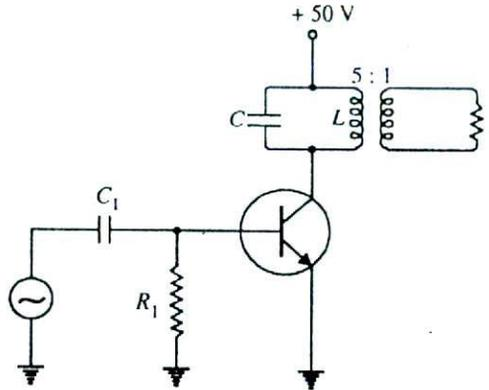

Fig. 17.21
**Example 17.7.** Calculate (i) a.c. load (ii) maximum load power in the circuit shown in Fig. 17.21.